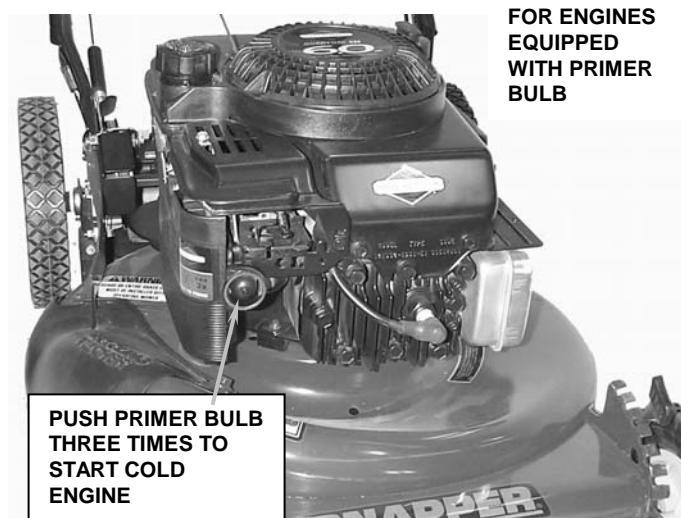

FIGURE 2.3
1. Push primer bulb three times to start a cold engine. **NOTE: The primer should not be required to restart a hot engine.** See Figure 2.3.